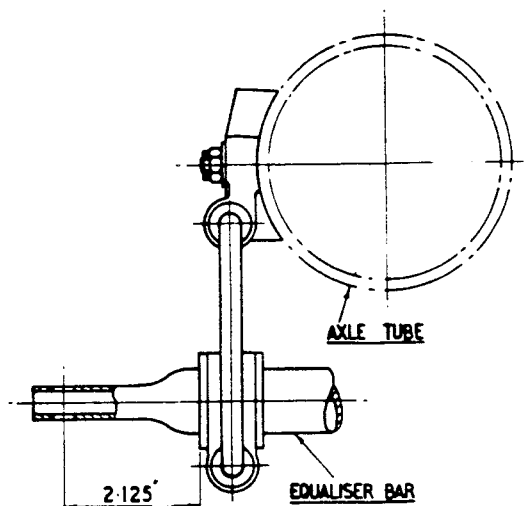

FIG. 2. FINAL POSITION FOR
- (3) Thread on the new support assembly from the front end of the equaliser bar, and slide the assembly along the bar until the outer face of the silentbloc bush is exactly 2.125" distant from the centre of the bolt hole at the rear of the bar (See Fig. 2. above). Due to the interference between the rubber bush and the bar, it is recommended that some form of lubricant, e.g. French chalk or soap, is used to facilitate sliding the assembly along the bar.
- (4) Fit the upper bracket to the existing stud on the axle tube, replace the existing plain washer (distance piece), and then secure by means of the thinner castellated nut provided, locking this by fitting a new 1/16" split pin. Reconnect the equaliser bar.